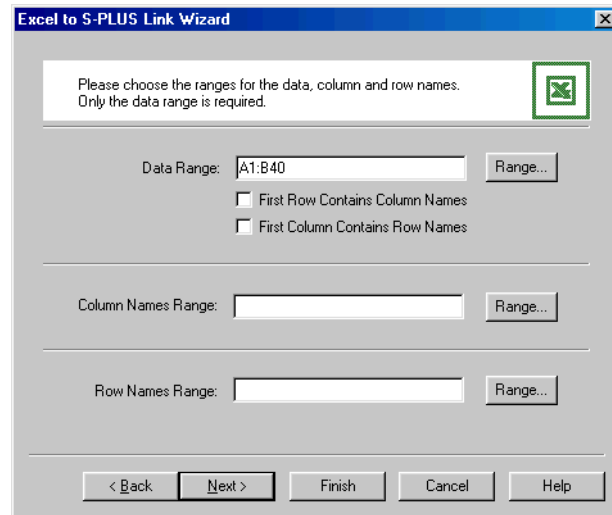

Figure 10.4: *Specifying a data range in the wizard.*
4. As you can see in Figure 10.4, the range you selected in the Excel worksheet before starting the wizard automatically appears in the **Data Range** field.